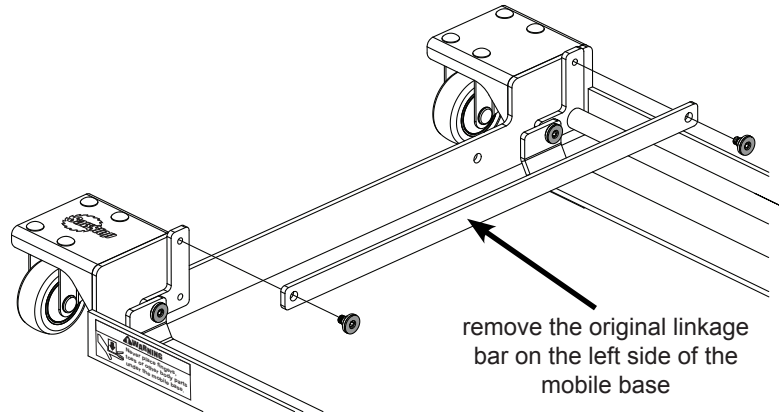

Fig. 1
1. Remove the original linkage bar on the left side of the mobile base by unscrewing the two M8 shoulder screws with a 5 mm hex key (see Fig. 1). The shoulder screws may be difficult to remove because they were installed with a thread adhesive. The original linkage bar and the two M8 shoulder screws may be discarded.